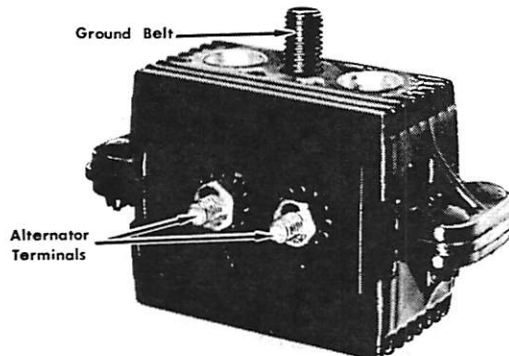

Figure 4. Testing Negative Diodes
- a. Connect small red test lead to either alternator terminal and connect black test lead to rectifier ground stud. (Figure 4) Meter pointer should remain stationary at left side of scale No. 3.